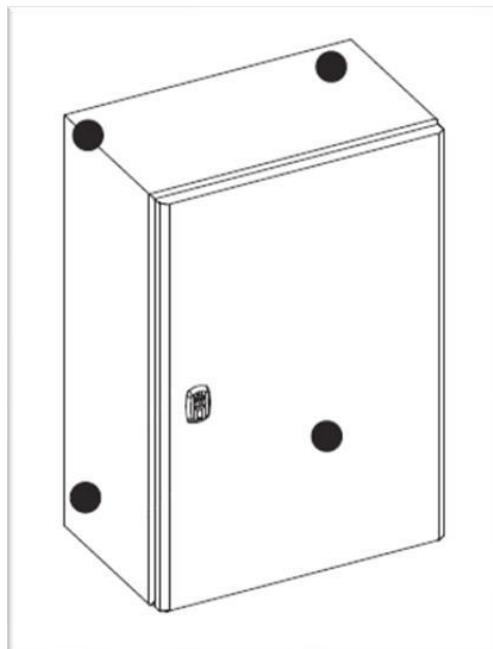
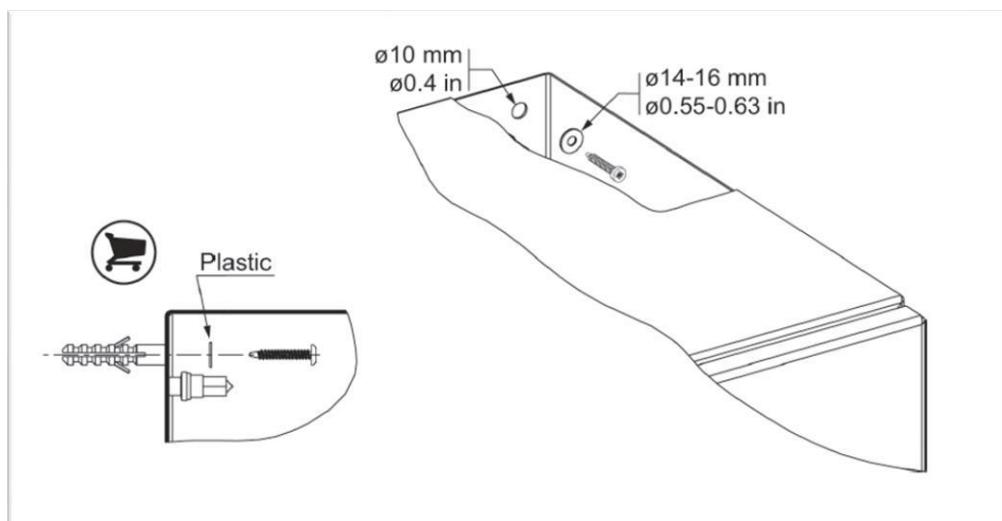

Figure 1. Mounting Hole Locations
Figure 2. Direct Fixings
5.6 Fix to wall directly as shown in Figure 2 or using fixing brackets as shown in Figure 1